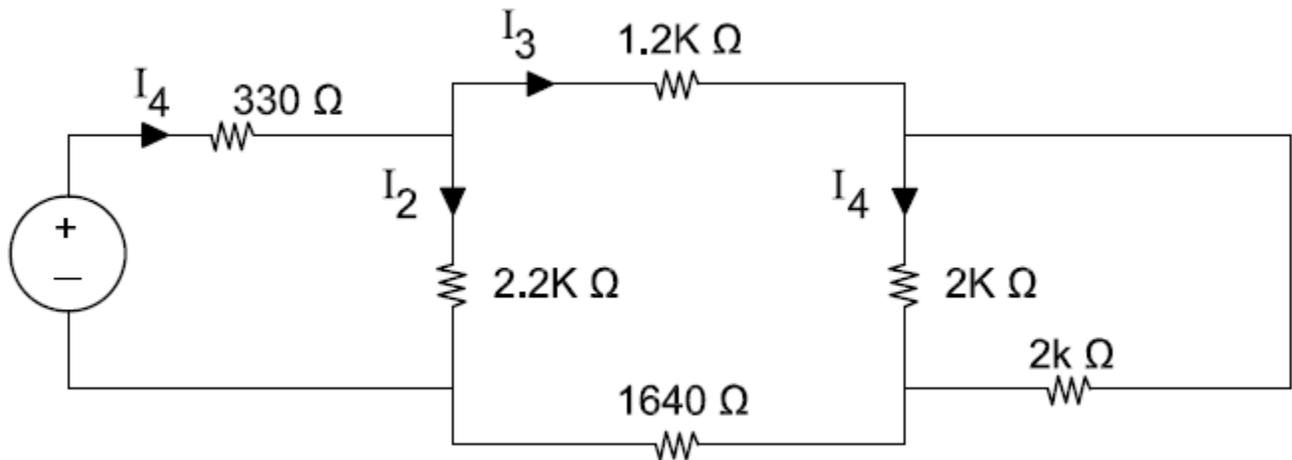

Fig.3
2. For the circuit shown in Fig.3. If $I_1=18$ mA and $I_4=4.5$ mA, then I_2 is: